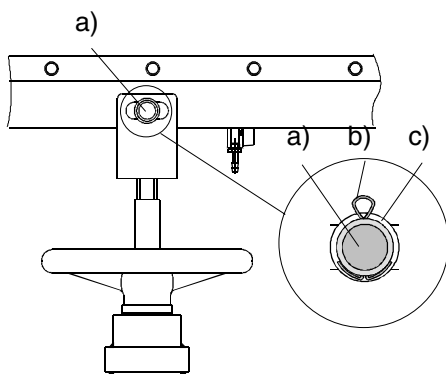

Fig. 2.13
- Mount the segment in the other side of the movable bearing pedestal such that the bolt is seated **in the centre of the slot** of the bearing fork (Fig. 2.13). Grease bolt Ø20 before inserting it.